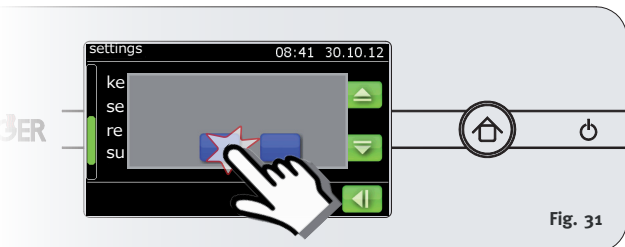

Fig. 31
2. Select OK to confirm the entry (Fig. 31).